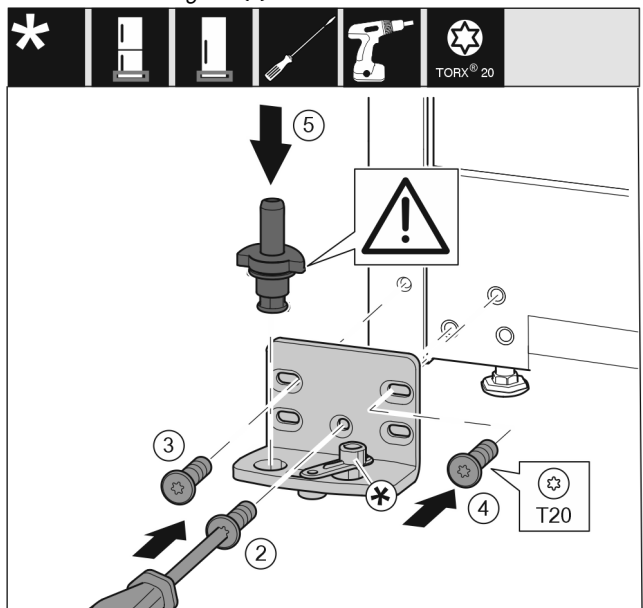

Fig. 37
- ▶ Place the swap bearing block on the other side and use a screwdriver to screw it on. Start with the screw *Fig. 37 (2)* at the bottom in the middle.*
- ▶ Tighten screw *Fig. 37 (3)* and screw *Fig. 37 (4)*.
- ▶ Insert the bearing bolt *Fig. 37 (5)* completely. Ensure that the latching cam is pointing towards the rear.
- ▶ Place the swap bearing block on the other side and use a screwdriver to screw it on. Start with the screw (2) at the bottom in the middle.*
- ▶ Tighten screw (3) and screw (4).*
- ▶ Turn the closing damper connection (5) by 180°. Use screwdriver to screw it onto the other side of the swap bearing block.*
- ▶ Insert the bearing bolt (6) completely. Ensure that the latching cam is pointing towards the rear.*